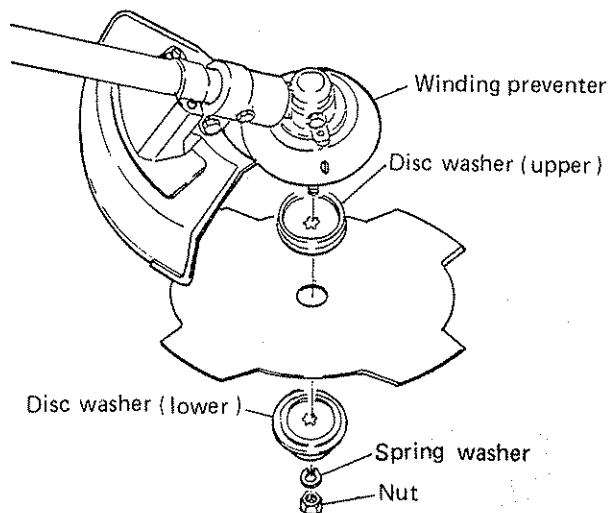

Figure 10
9. Attach the blade as illustrated Figure 10.